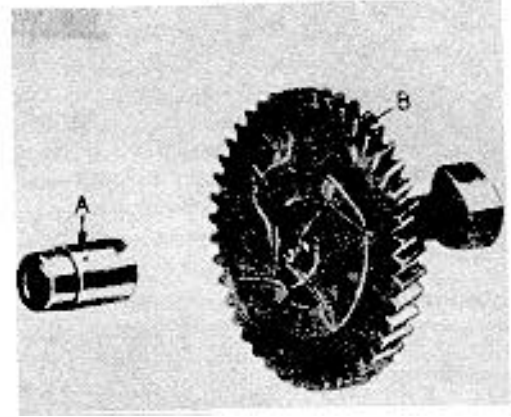

Figure 18
- b. Before installing camshaft assembly in block, breaker cam must be correctly inserted between springs of spark advance systems to insure proper spark timing. Spark timing marks (A and B, Fig. 18) on cam and spark-advance side of camshaft gear must coincide. Spread springs in direction indicated) by arrows on flyweight and insert cam. Figure 18.